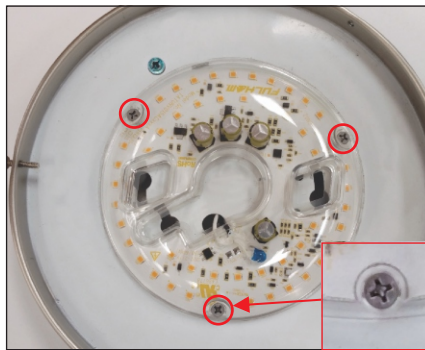

Figure 3
3. Use the supplied self-drilling screws (B) to attach the DirectAC Engine (A) to the luminaire's housing. See figure 3.